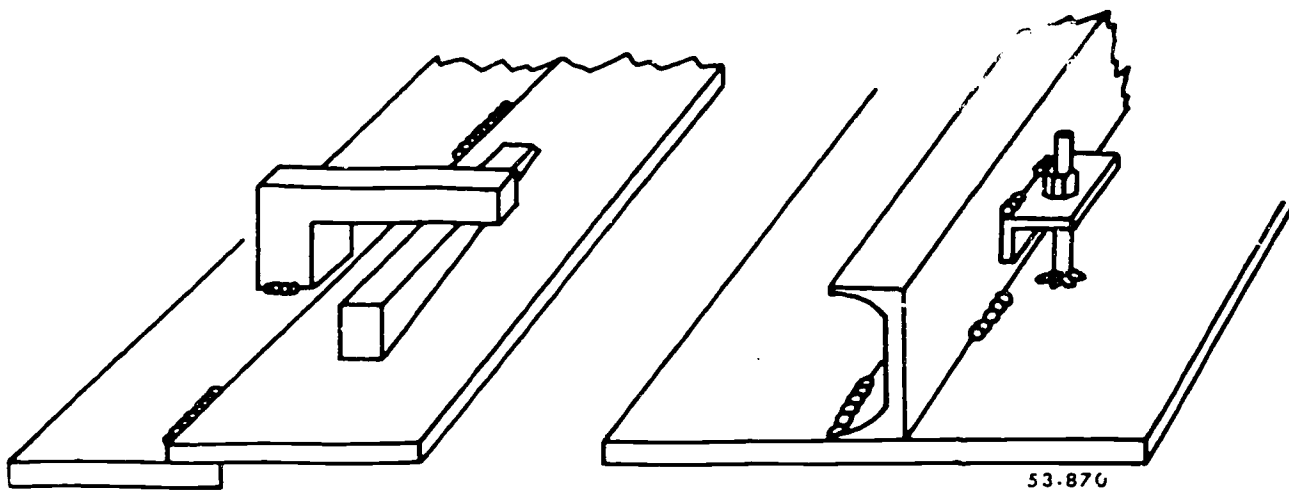

Figure 3-12. Using fit-up dogs.
*Lap welding procedure.* When you are joining metal thicknesses greater than  $\frac{1}{8}$  inch, the edges of the sheet should overlap approximately three to four times the metal thickness. Tack the plates at intervals of approximately 8 inches. If you must force the fit-up by means of dogs, as illustrated in figure 3-12, short welds are preferred to tack welds.